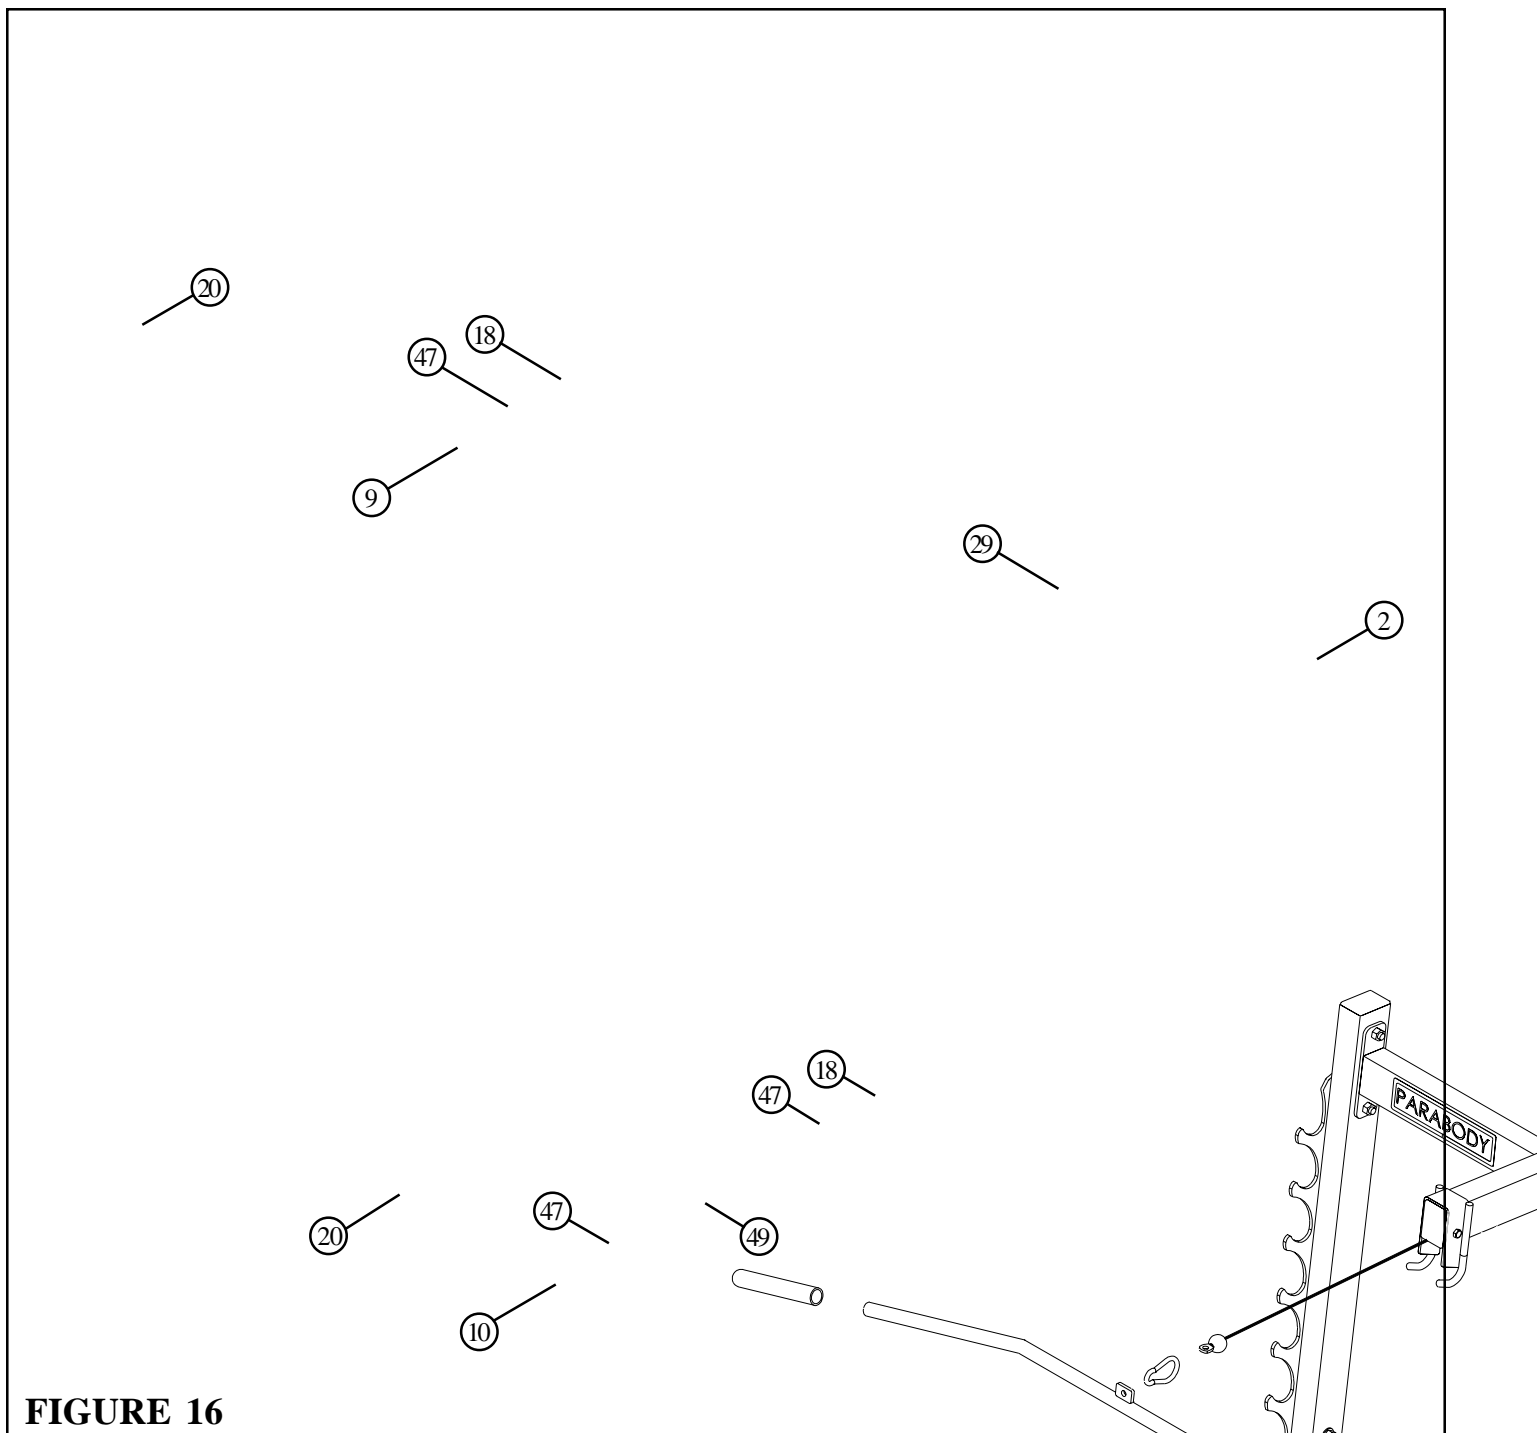

**FIGURE 15**
- Assemble two 4 X 7" ROLLER PADS (15) to the KNEE SUPPORT (3) using two STARLOCK COLLARS (46) as shown in FIGURE 15.
- **SECURELY** assemble the KNEE SUPPORT (3) to the UPRIGHT FRAME (2) using one 1/2 X 5-1/2" BOLT (38) and one 1/2" LOCK NUT (44). (**NOTE: Do not overtighten this connection, the KNEE SUPPORT should rotate freely.**) See FIGURE 15.
- **SECURELY** assemble the SPRING PIN ASSEMBLY (45) to the KNEE SUPPORT (3) as shown in FIGURE 15.
- Attach one 1" SQ. GLIDE (21) to the UPRIGHT FRAME (2) where the round of the KNEE SUPPORT (3) makes contact.